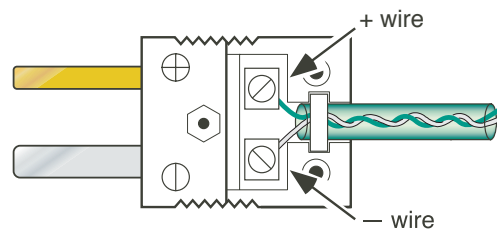

Figure 14.2.2a Connector detail (typical)
1. connecting the transducer wires into the correct type of plug (figure 14.2.2a), and inserting the plugs into the relevant sockets in the remote CJ unit.